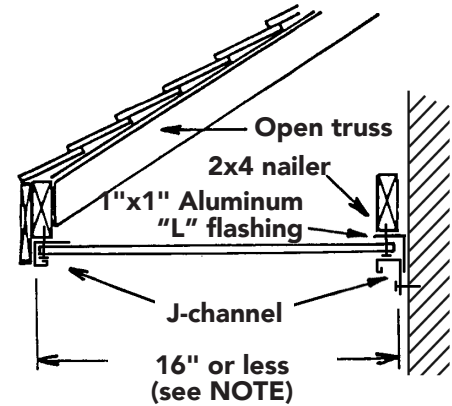

Figure 63
- Examine the illustrations on the right side of the page and find one that most closely resembles the construction methods used on this particular project (Figures 63–64).